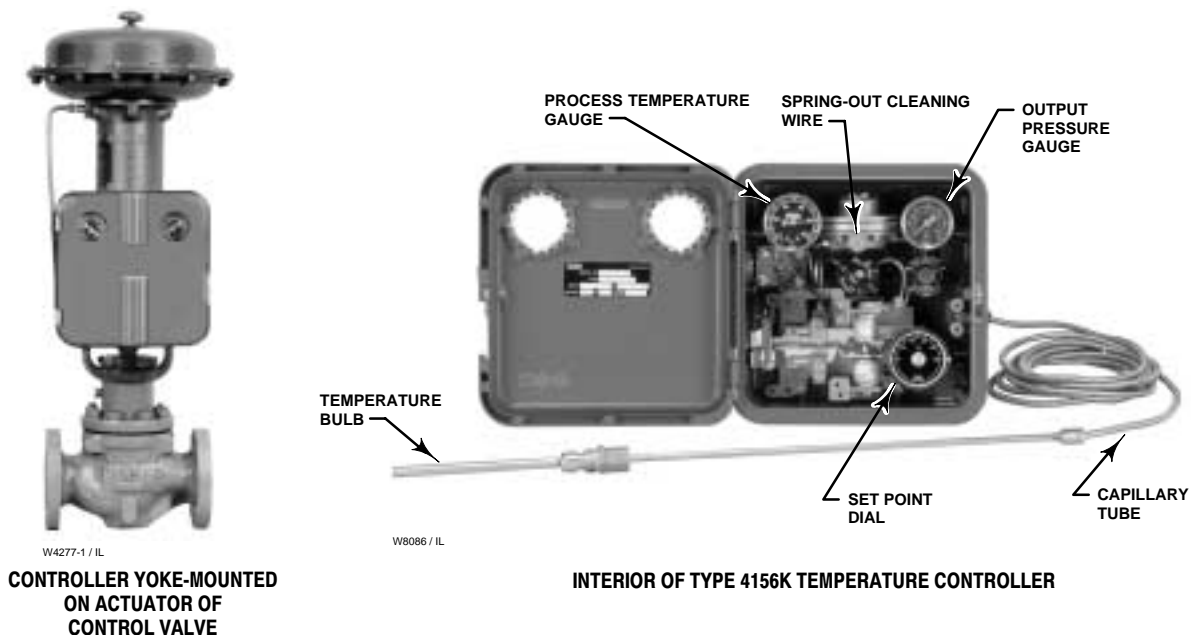

Figure 1. Type 4156K Controller
The 4156K and 4166K Series Wizard® II temperature controllers (figure 1) provide rugged and economical solutions to temperature control in many applications, particularly in the chemical and oil production industries. These pneumatic instruments are available for proportional-only, proportional-plus-reset, and differential gap control. They measure process temperature with a gas-filled temperature bulb immersed in the process fluid and compare this temperature to an operator-adjusted set point. The controller then delivers a pneumatic signal to a control element that maintains the process temperature at or near the set point.
- **Mounting Versatility**—Install the controller on a panel, wall, or pipestand, as well as on an actuator (as shown in figure 1). The temperature element is adjustable for desired penetration into the process vessel.